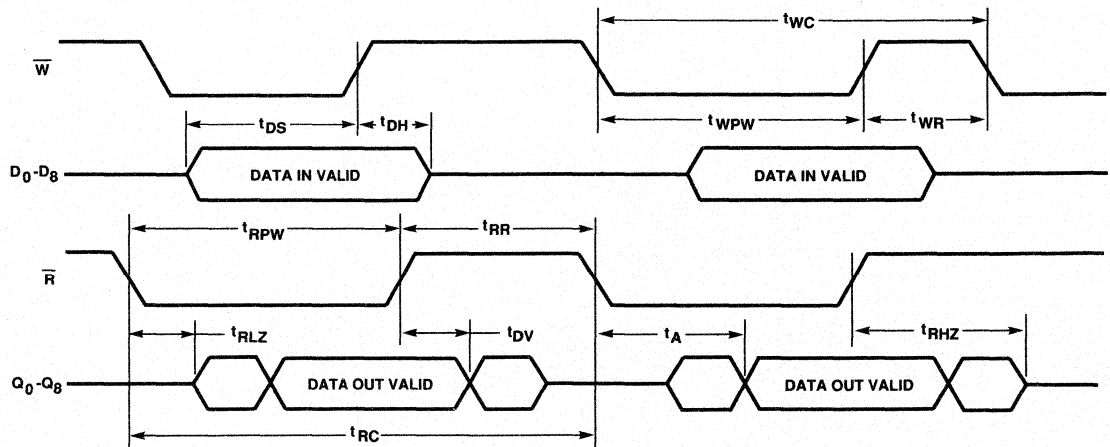

Figure 3. Asynchronous Write and Read Timing
The HIGH state of the Full Flag ( $\overline{FF}$ ) indicates that the FIFO is capable of accepting data. The falling edge of Write (W) initiates a write cycle. (See Figure 3.) Data appearing at inputs D0-D8  $t_{DS}$  prior to and  $t_{DH}$  after the rising edge of W will be stored sequentially in the FIFO.
The HIGH state of the Empty Flag ( $\overline{EF}$ ) indicates that the FIFO is ready to output data. The falling edge of Read (R) initiates a read cycle. (See Figure 3.) Valid data appears on the outputs Q0-Q8  $t_{x}$  after the falling edge of R, and remains until  $t_{QV}$  after the rising edge of R. Q0-Q8 return to a high-impedance state when a valid read is not in progress.